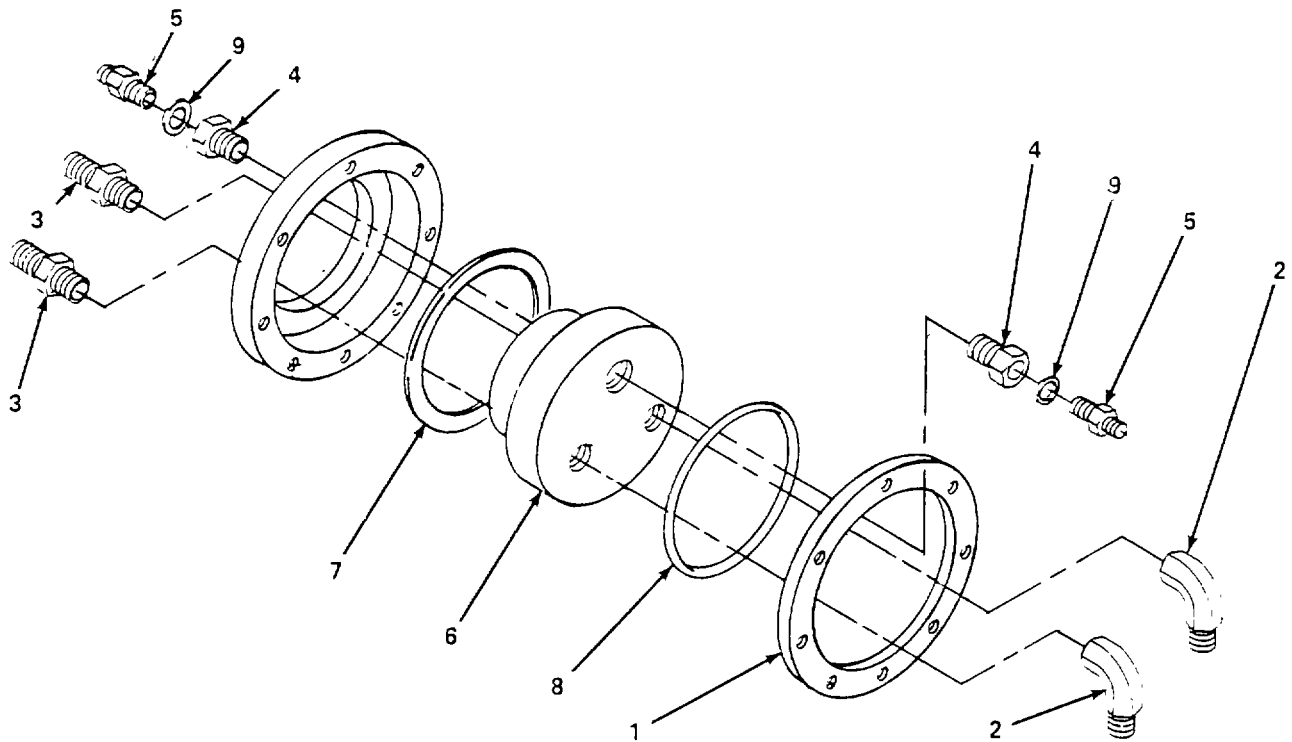

Figure 6-10. Electrical and Water Penetrators, Repair.
e. Repair Electrical and Water Penetrator. (figure 6-10)
- (1) Remove electrical and water penetrator (para. a. above).
- (2) Clean all components using nonionic detergent cleaner and rinse with clean distilled water.
- (3) Inspect mounting flange (1) and replace if bent, cracked, stripped threads, or otherwise damaged.
- (4) Inspect elbow (2) and fittings (3), (4), and (5), and replace if stripped threads, cracks, or otherwise damaged.
- (5) Inspect penetrator plate (6) and replace if stripped threads, bent, cracked, or otherwise damaged.
- (6) Apply grease to gasket (7) and preformed packing (8) and (9).
- (7) Install electrical and water penetrators (para. a. above).